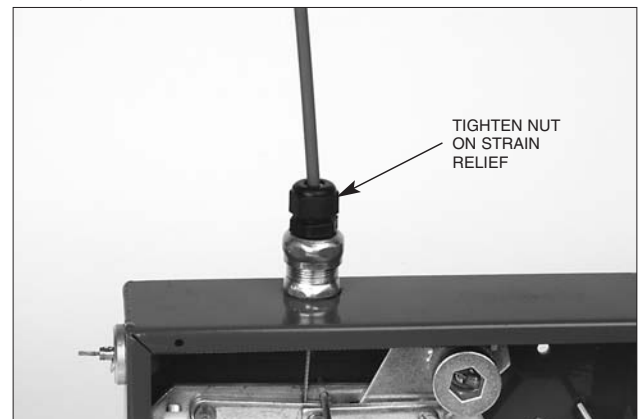

Figure 4-47.
10. Tighten the strain relief nut onto the strain relief. See **Figure 4-47**.